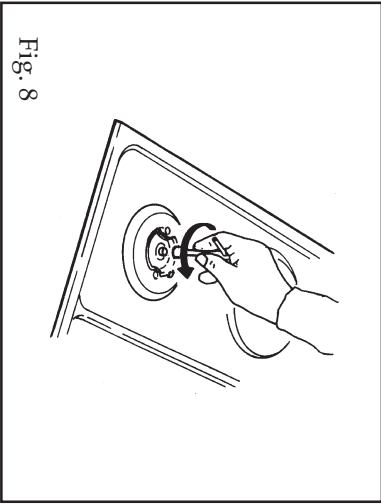

Fig. 8
- to adjust to the minimum, use a screwdriver on the screw placed on the tap (Fig. 8) after turning the tap to its minimum position. For LPG (butane / propane) screw tight.